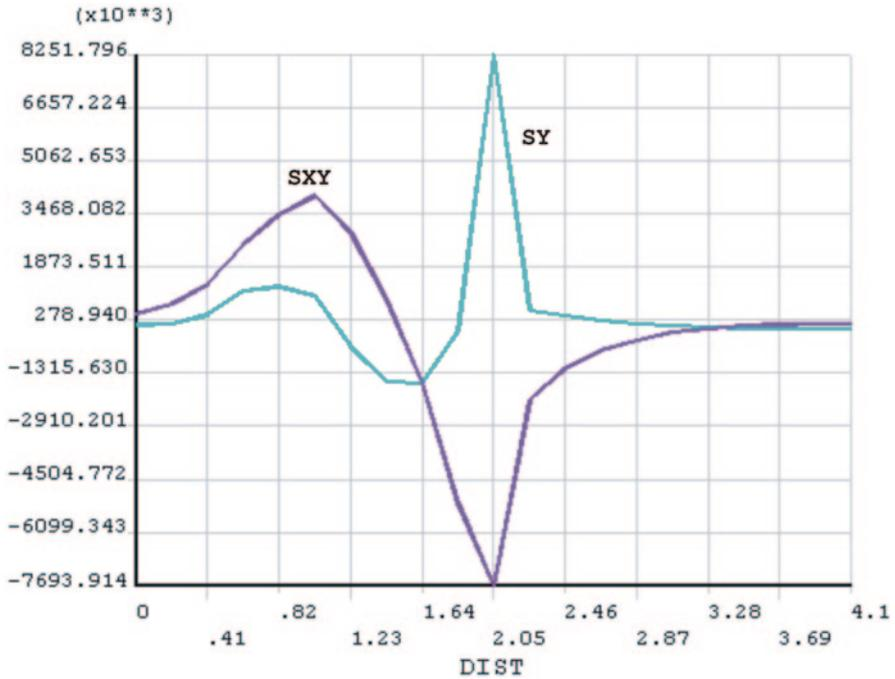

Fig. 8.65 Line plots of σ_{yy} and σ_{xy} along path V1
- Figure 8.65 shows the line plots of σ_{yy} and σ_{xy} along the defined path.